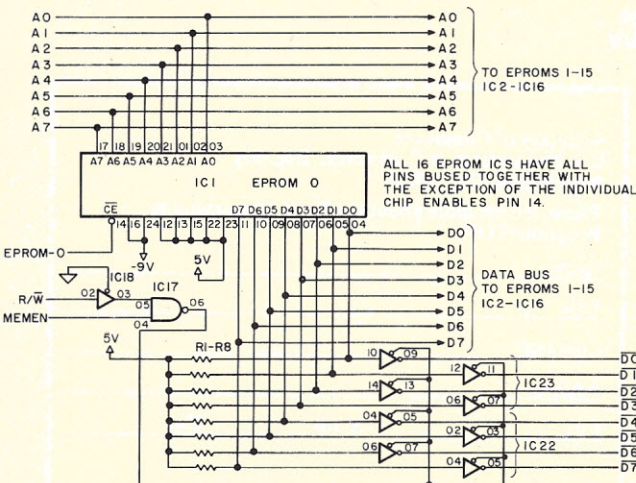

Fig. 1. APTEC 4K EPROM board schematic. The board can be strapped to reside in any 4K boundary in the first 32K of memory via jumper at point A.
The board can be strapped to reside in any 4K boundary in the first 32K of addressable memory (see Fig. 1). The upper 32K of memory can be accessed by a simple circuit modification (see Fig. 2). The address map in Fig. 3 will be helpful.
As seen in Fig. 1, address decoding is done by IC20 and IC21. IC21 is a three-to-eight-line decoder, which is enabled by ANDING the Valid Memory Address (VMA), $\emptyset 2$ clock and the complement of address line A15; also decoded are address lines A12-A14. Any of the outputs of IC21 can be strapped to point A on the board to provide the eight 4K boundaries (see Fig. 3). This point A is used to enable IC20, a 4-to-16-line decoder and to signal the $\emptyset 2$ clock stretcher to slow the clock (SM). IC20 decodes address lines A8-A11 for addressing one of the 16 EPROM locations.